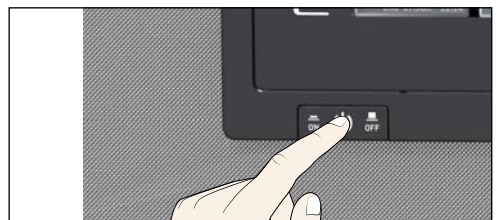

Fig. 24 Switching off the appliance.
5. Switch off appliance (Fig. 24).